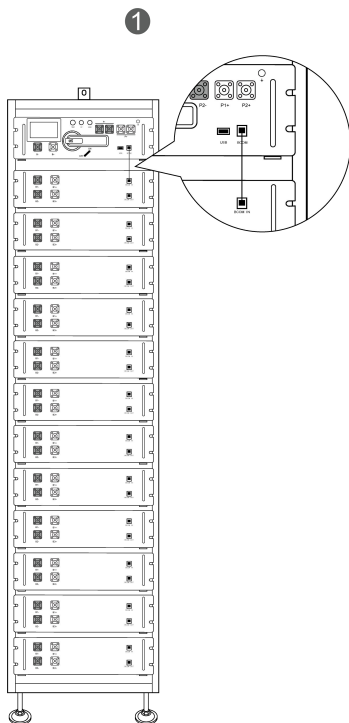
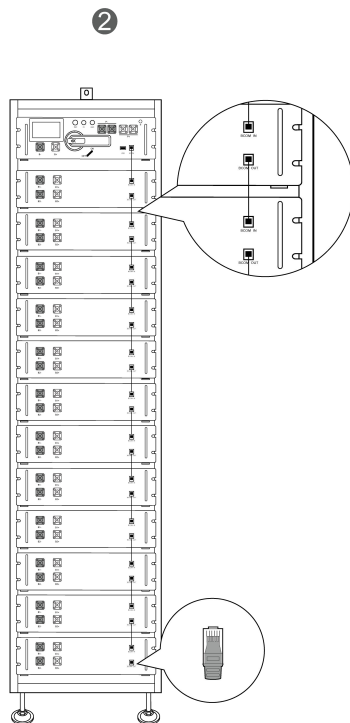

Figure 1-1
Figure 1-2
1. Communication cables: See the figure 1-1 and figure 1-2.
BOS-GL (2P6S):**1. Communication cables:** See the figure 1-1 and figure 1-2.